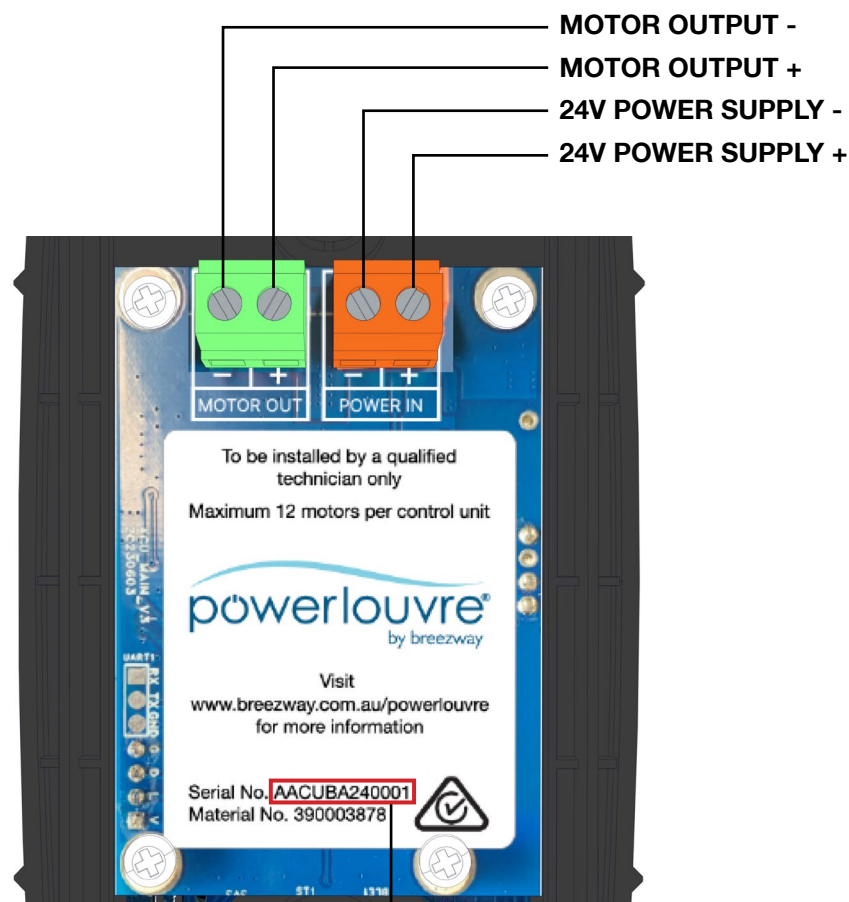

Fig. 23.4.4.6.1-1.1
- AACU firmware updates can be performed OTA when available. The current version of the AACU and Bluetooth firmware is accessible through the settings menu via the App. The current version of the App can be accessed via the INFORMATION>ABOUT menu. *Refer to Figure 23.4.4.6.3-1.3.*
- Schematic details on the back of the AACU. *Refer to Figure 23.4.4.6.1-1.1.*